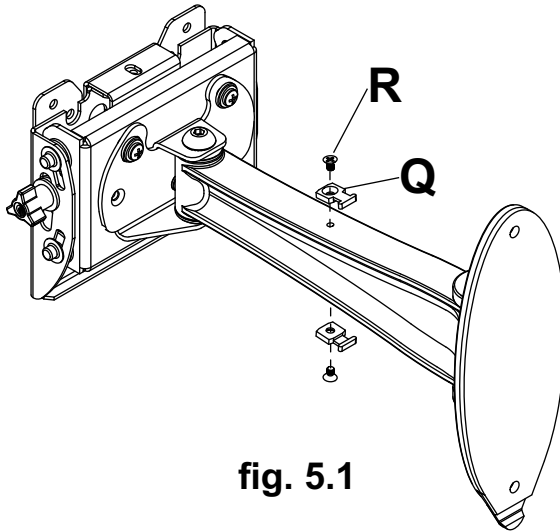

fig. 5.1
- 5-1** Attach cable tie anchor (Q) to top or bottom of wall arm (A) using 8-32 x 1/4" phillips screw (R) as shown in figure 5.1.